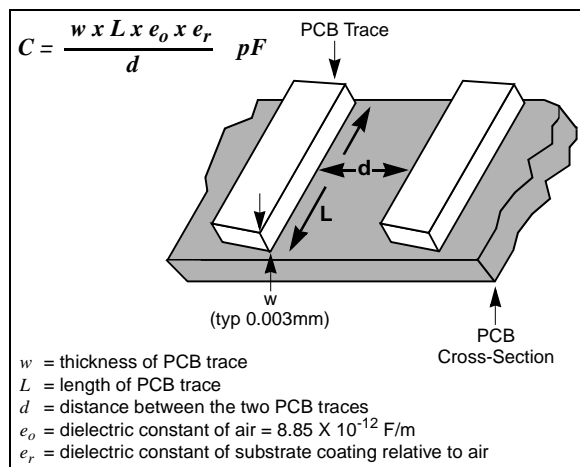

FIGURE 7: A capacitor can be constructed on a PCB by placing two traces in close proximity. With this PCB capacitor, signals can be coupled between the traces.
As shown in Figure 7, the value of the capacitance between two traces is primarily dependent on the distance (d) between the traces and the distance that the two traces are in parallel (L). From this model, the amount of current generated into the high impedance trace is equal to: